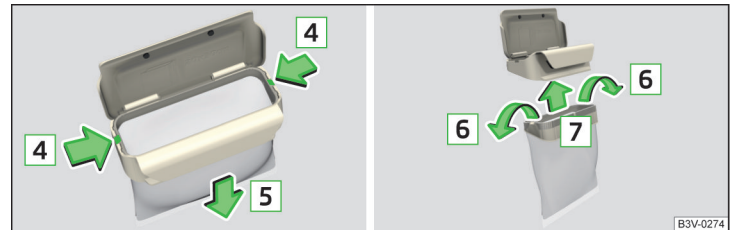

Fig. 97 Replace bags
- Press the two locking lugs on the frame in the direction of arrow [4] » Fig. 97.